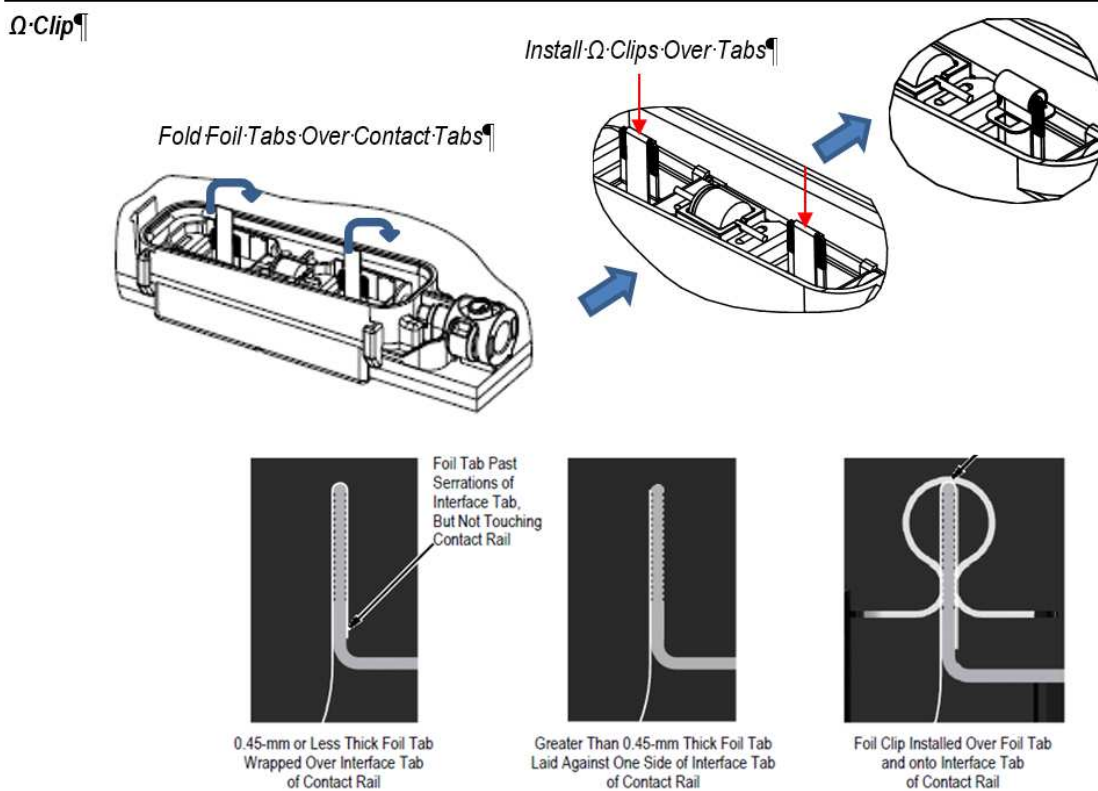

Figure 9a
2. For the Ω clip type junction box, using foil clip pliers TE part number 5-1579002-0, the open end of each foil clip must be spread apart to a maximum of 1.5 mm to enable the foil clip to slide over the thickness of the foil tab of the solar panel and interface tab of its respective contact rail, and then released. One Ω foil clip must be installed onto each interface tab. Refer to Figure 9a.